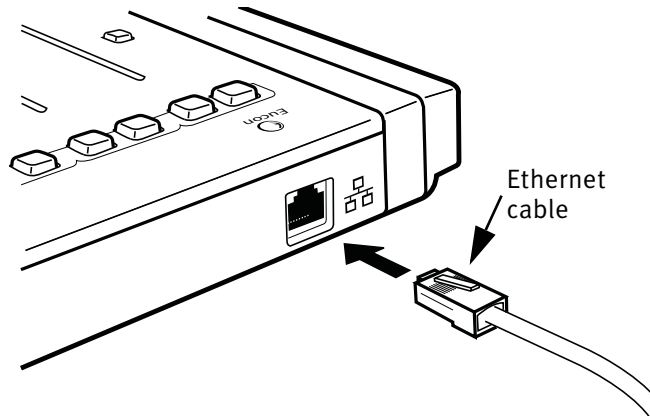

Figure 2-8 Ethernet cable and rear panel jack
6. Plug one end of the Ethernet crossover cable into the Ethernet jack (labeled with ) on the rear panel of the MC Mix (Figure 2-8).